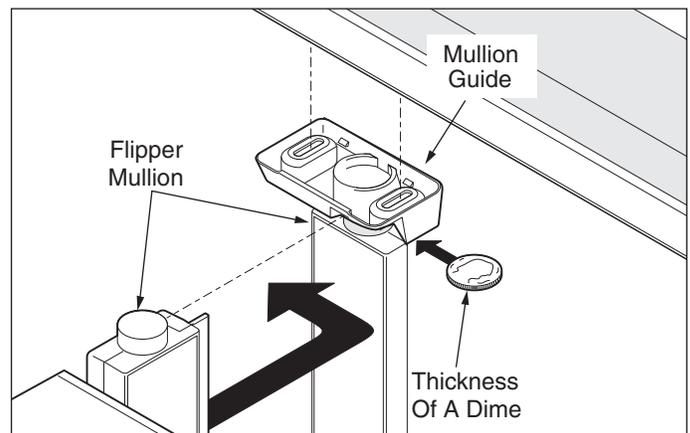
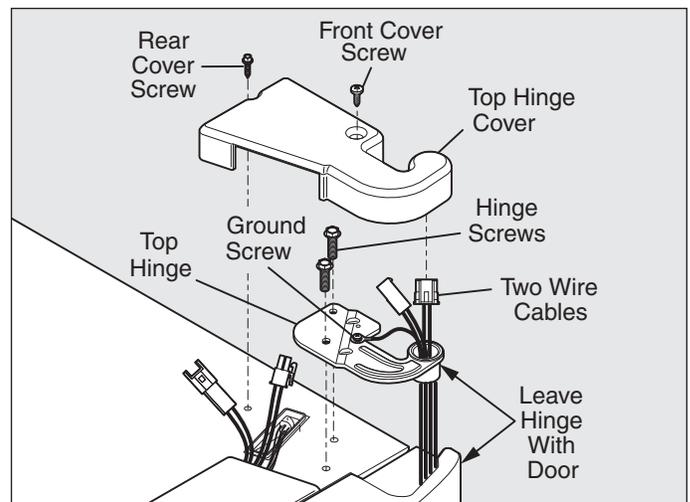
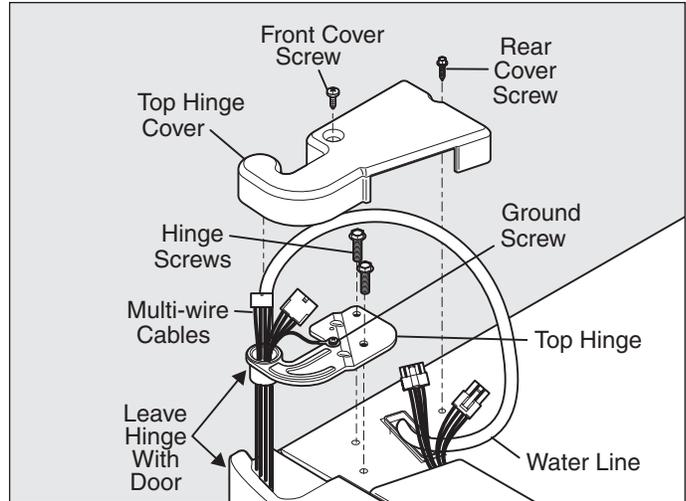
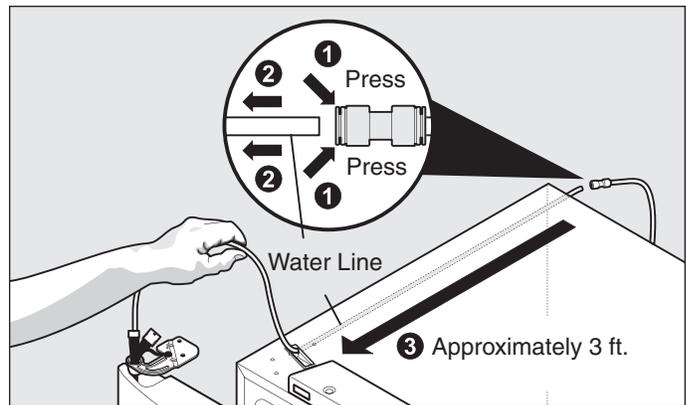

Figure 6-14.
Figure 6-15.
Figure 6-16.
Figure 6-18.
1. Remove the two (2) screws from the cover over the top door hinge of the door being removed. (See Figure 6-14 and Figure 6-15)
3. Disconnect the harness by grasping both sides of the connector firmly, depress the latch, and pull apart. Remove the two (2) screws from the top hinge. Lift the door off of the bottom hinge and set it aside. (See Figure 6-15 and Figure 6-16)
4. Detach the water tube from the connector located behind the refrigerator and pull the tube back out to the front of the unit. The connector releases when you press inward on the outer sleeve while pushing the tube toward the connector then while continuing to hold in the sleeve, pull the tube away. (See Figure 6-15 and Figure 6-18)